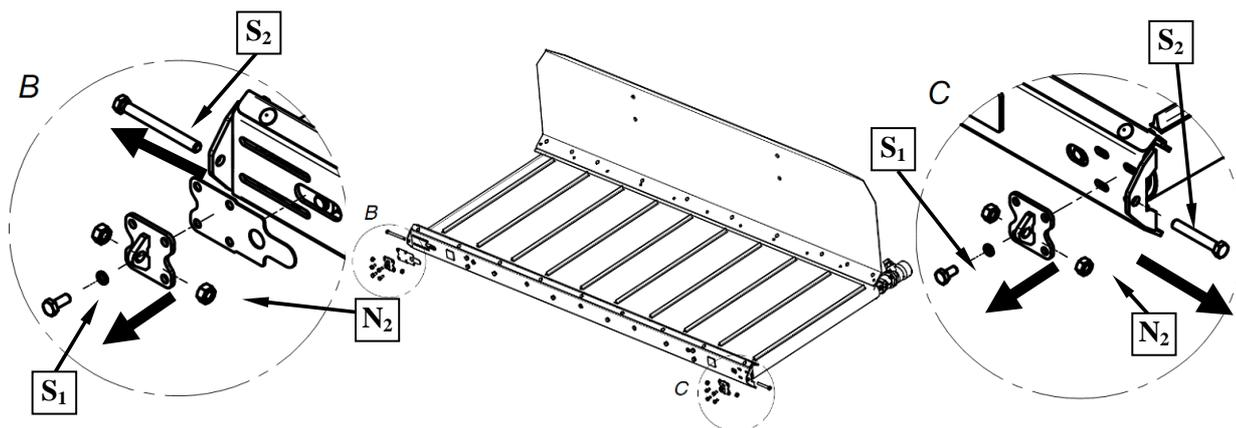

Fig. 30.
1. Loosen bolts M10 – S₁, nuts M12 – N₂ adjustment bolts M12 – S₂ of front tensioners (Fig. 30).